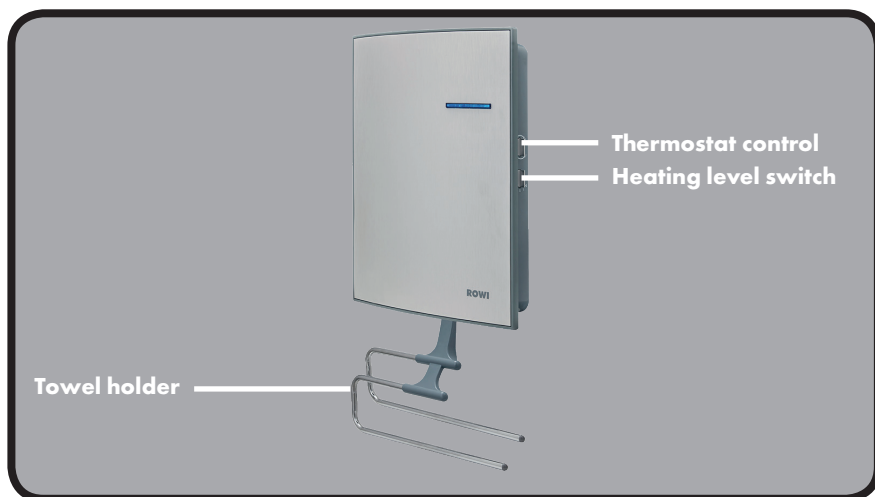

Fig. 4: Appliance overview
1. Make sure that the heating level switch (see Fig. 4) is at "0". Then connect the fan heater to an earthed socket protected with an earth-leakage circuit breaker.
2. Now switch on the appliance by moving the heating level switch (see Fig. 4) to the desired position. The following applies here:
Turn the rotary knob for setting the thermostat temperature (see Fig. 4) clockwise to the maximum position (position "+"). Wait until the room has reached a temperature you find pleasant. Turn the rotary knob anticlockwise until you hear an audible click. The thermostat control now ensures a more or less constant room temperature by automatically switching on and off.
2. Move the heating level switch (see Fig. 4) to position "0".